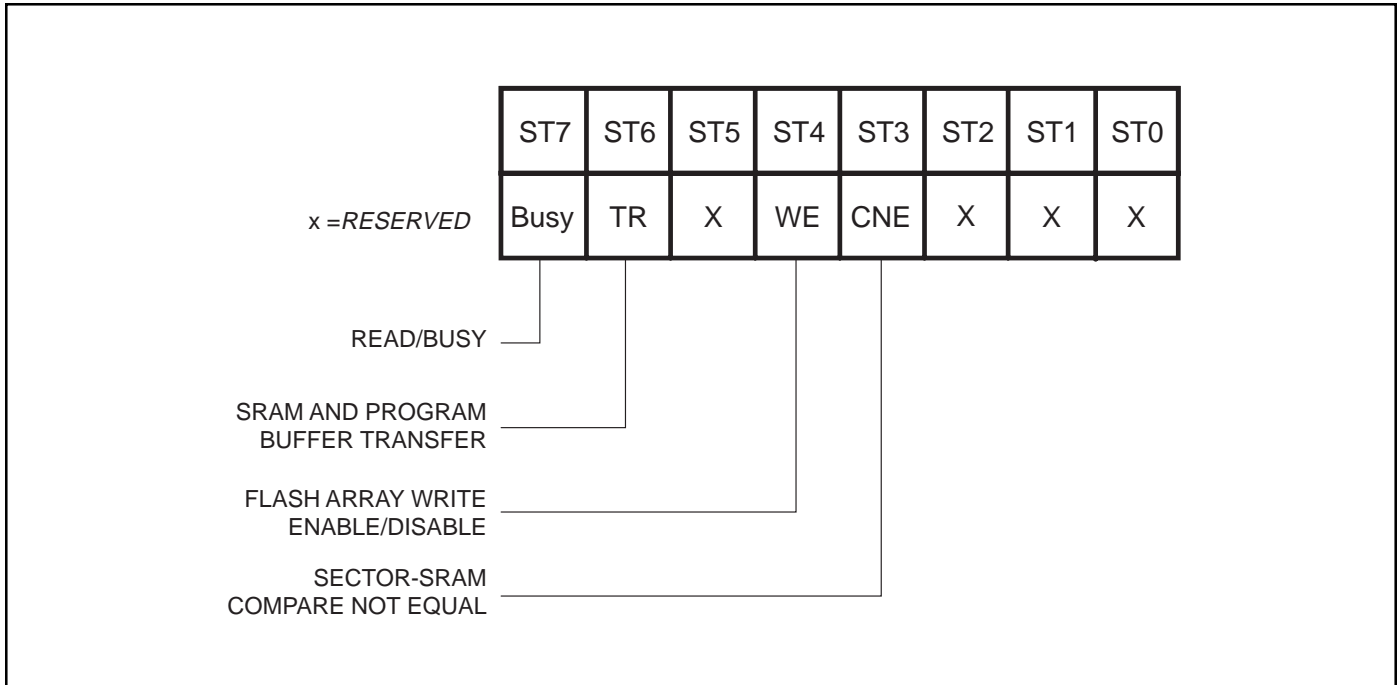

Figure 8. Status Register Bit Locations
The status register provides status of the Flash array's Ready/Busy condition (R/ $\overline{\text{B}}$), transfers between the SRAM and program buffer (TX), Write-Enable/Disable (WE), and Compare Not Equal (CNE). The register can be read using the Read Status Register command (Figure 8).